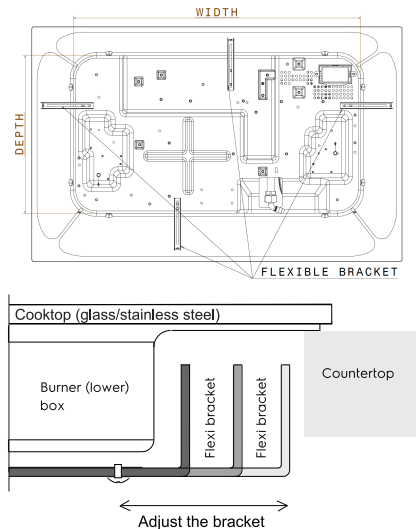

Fig.7-2
- Gas hobs should be secured properly with the flexible brackets provided to prevent it from moving in Fig 7-2.